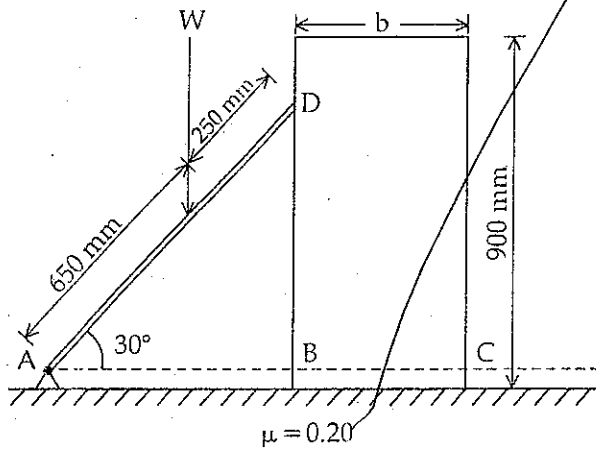

Figure 2
- (B) Two cars moving in the same direction are 250 m apart, Car A being ahead of Car B. At this instant velocity of A is 3 m/s and a uniform acceleration of 1.2 m/s², while the velocity of B is 30 m/s and a uniform retardation of 0.6 m/s². How many times do they cross. Also find when and where they cross and find the distance between them 25 seconds after starting the observation. 11
- (C) A 1 kN box is just to be pushed to the right side without tipping over, with the help of a lever AD operating under force 'W' applied to it vertically as shown in Figure 2. If the coefficient of friction at all contact surfaces is 0.2, calculate the magnitude of 'W' and width of block 'b'. Neglect the weight of lever AD. 10